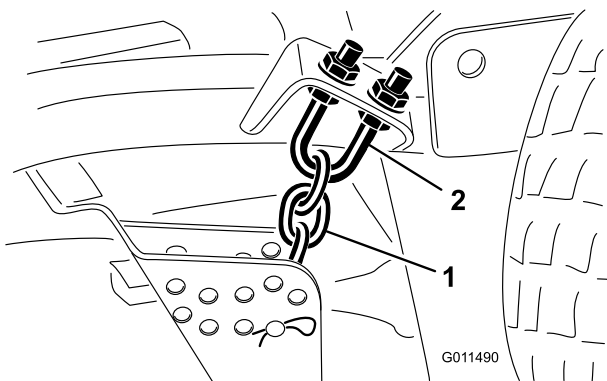

Figure 79
1. Loosen the jam nuts at the top or bottom of the height-of-cut chain U-bolt (Figure 79).